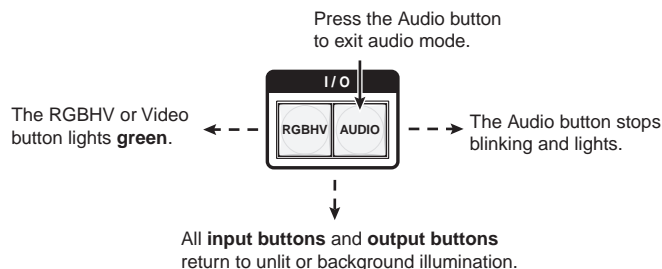

Figure 3-65 — Deselect Audio mode
5. Press and release the Audio button (figure 3-65).